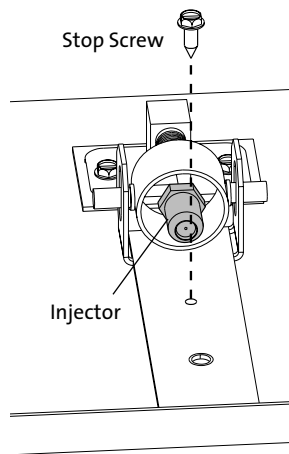

Figure 22. Burner injector and LP stop screw.
8. **Change the Burner Injector.** See fig. 22. Using a 1/2" open end wrench or deep-well socket remove the burner orifice from its elbow housing and replace with the appropriate orifice supplied in the kit.
- A) **Install the stop screw into the air shutter plate.** See fig. 22.